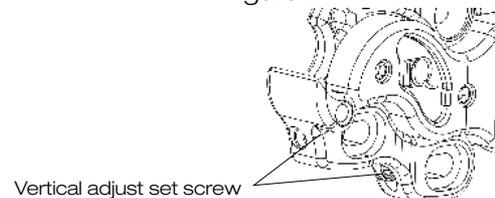

figure 3
2. Connect the trigger switch to the range finder port (figure 3)